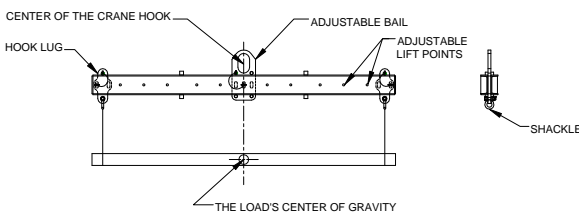

Figure 1 PROPER LIFTING
7. **See Figure 1 & 3**, the Lifting Beam is level/horizontal, proper lifting position.